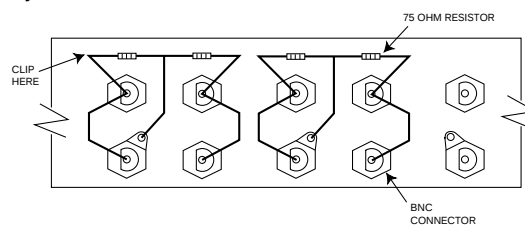

Figure 1. Looping Conversion Modification
- b. Looping Operation – To convert to looping operation, remove the cover. Remove the rear panel of the chassis. Locate the 75-ohm resistors at the rear of the BNC jacks. Use wire cutters to clip one of the resistor leads for each input that you want to loop (refer to Figure 1). Replace the cover. Looping and terminating inputs may be mixed.
NOTE: In this configuration, MON 1 must be terminated and the unit must be modified in order to be looping (refer to Figure 1).
NOTE: In this configuration the unit must be modified in order to be looping (refer to Figure 1).